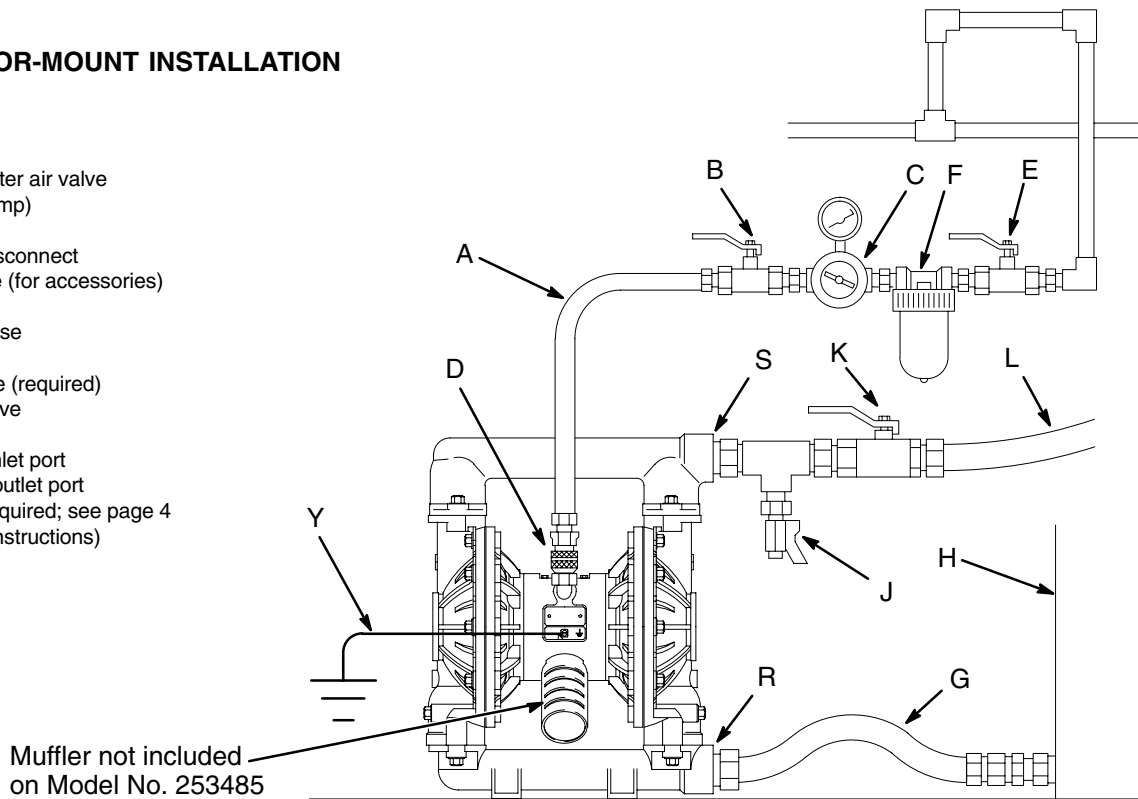

Fig. 2
- The typical installation shown in Fig. 2 is only a guide for selecting and installing system components. Contact your Graco distributor for assistance in planning a system to suit your needs.
A bleed-type master air valve (B) is required in your system to relieve air trapped between this valve and the pump. Trapped air can cause the pump to cycle unexpectedly, which could result in serious injury, including splashing in the eyes or on the skin, injury from moving parts, or contamination from hazardous fluids. See Fig. 2.
1. Install the air line accessories as shown in Fig. 2. Mount these accessories on the wall or on a bracket. Be sure the air line supplying the accessories is grounded.
- a. Install an air regulator (C) and gauge to control the fluid pressure. The fluid outlet pressure will be the same as the setting of the air regulator.
- b. Locate one bleed-type master air valve (B) close to the pump and use it to relieve trapped air. See the **WARNING** above. Locate the other master air valve (E) upstream from all air line accessories and use it to isolate them during cleaning and repair.
- c. The air line filter (F) removes harmful dirt and moisture from the compressed air supply.
A fluid drain valve (J) is required to relieve pressure in the hose if it is plugged. The drain valve reduces the risk of serious injury, including splashing in the eyes or on the skin, or contamination from hazardous fluids when relieving pressure. Install the valve close to the pump fluid outlet. See Fig. 2.
1. Use grounded fluid hoses (L). The pump fluid outlet (S) is 1–1/2 in. npt(f). Screw the fluid fitting into the pump outlet securely.
2. Install a fluid drain valve (J) near the fluid outlet. See the **WARNING** above.
3. Install a shutoff valve (K) in the fluid outlet line.
4. Place the end of the fluid hose (L) into an appropriate container.
5. Close the fluid drain valve (J). See Fig. 2.
6. Close the pump air regulator (C). Open all bleed-type master air valves (B, E).
8. Slowly open the air regulator (C) until the pump starts to cycle. Allow the pump to cycle slowly until all air is pushed out of the lines and the pump is primed.